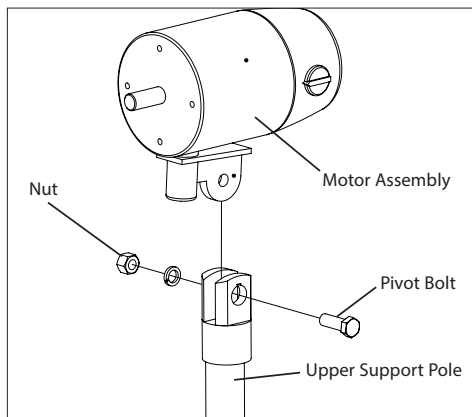

Figure 1: Attaching Motor to Motor Support Assembly
1. Remove the base from rear guard. Keep the (2) screws holding the base to the rear guard. These screws will be used to connect the base and lower support pole.
5. Mount entire support pole to the base. Align holes and use (3) screws from the hardware bag and the (2) screws from Step 1 to secure the entire support pole to the base.
7. Mount the motor assembly to the connector on the upper support pole (see Figure 1). Make sure the holes align.